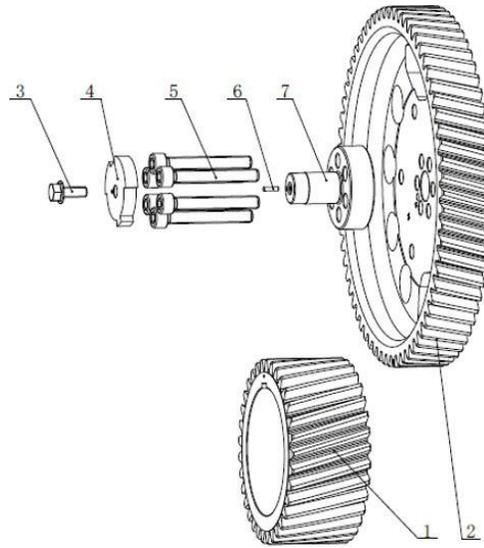

Figure 85. Timing Gears
Turn the crankshaft to make its gear mark "•" straight up and then locate the camshaft timing gear (2) via the cylindrical pin on the camshaft, adjust the camshaft timing gear (2), align the mark "N" on the gear end face with the mark "•" of the crankshaft timing gear (1) as shown below. And then install the connecting shaft (7) on the camshaft timing gear, and make sure to align the connecting shaft with the pin hole on the camshaft shaft timing gear. And then tighten the connecting shaft and camshaft timing gear to the camshaft with hexagon socket head cap screw (5). Tightening torque:  $(70\pm 5)$  N.m. Check the backlash between the crankshaft gear and camshaft gear, and the meshing clearance should be 0.09mm-0.15mm. Then connect the signal panel (4) to the connecting shaft (7) via the cylindrical pin (6) and tighten it with hexagonal flange bolt (3). (Refer to figures 85 & 86.